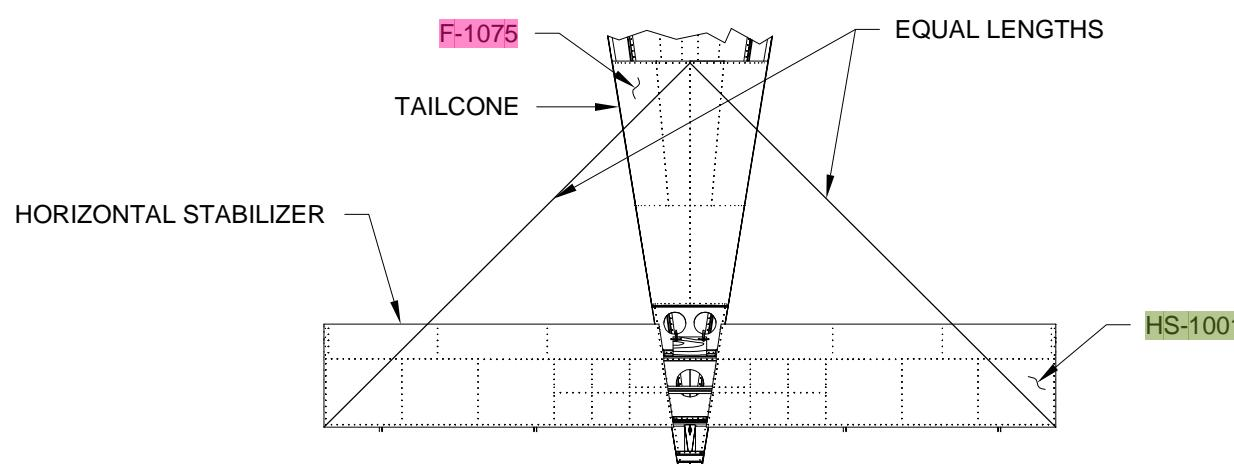

FIGURE 2: SQUARE HORIZONTAL STABILIZER WITH TAILCONE
Step 2: Measure from the aft outboard corners of the HS-1001 Skins to a common rivet hole on the centerline of the F-1075 Tailcone Aft Top Skin as shown in Figure 2 to check that the horizontal stabilizer is square to the tailcone. If the two measurements are equal the stabilizer is properly positioned. Proceed to the next step. If the measurements differ loosen the clamps holding the block of wood, slightly rotate the stabilizer, tighten the clamps and recheck the measurements. Repeat this until the lengths are equal.